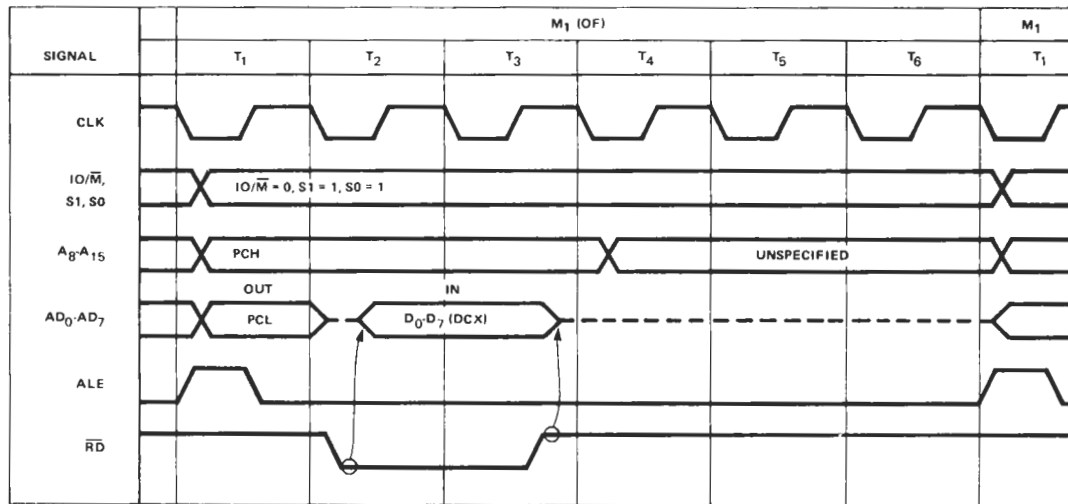
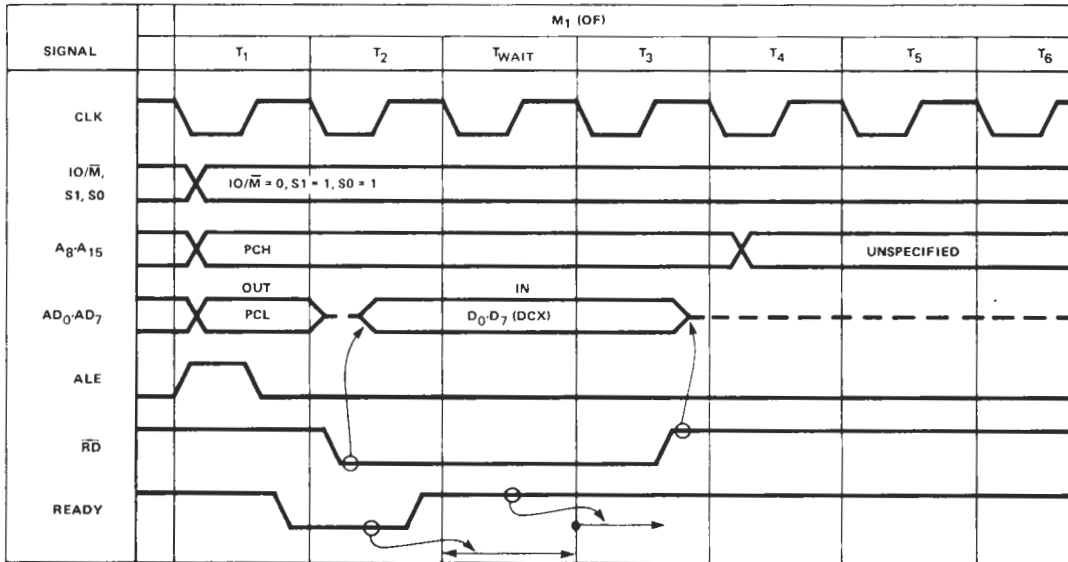
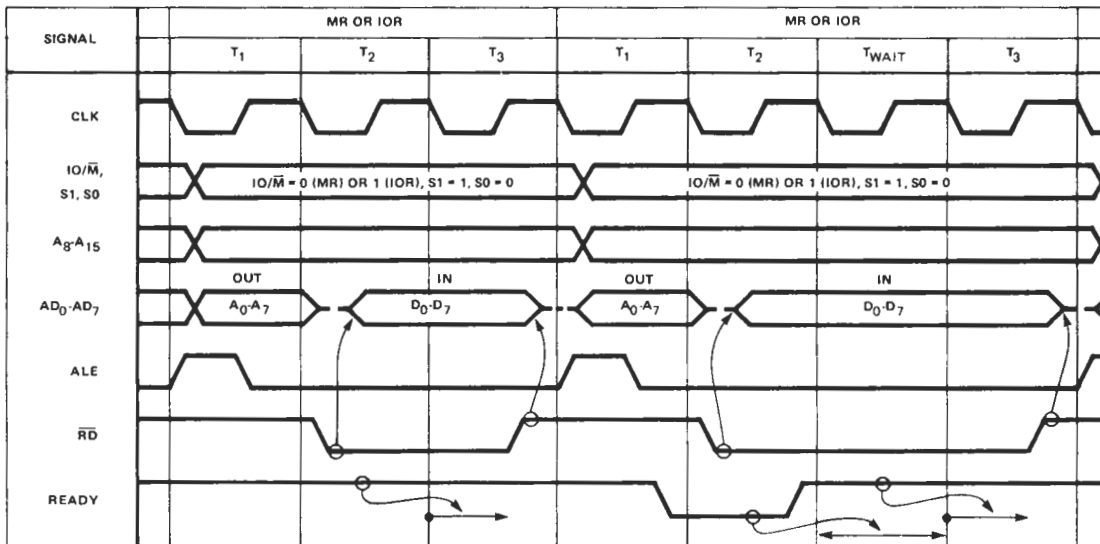

FIGURE 2-13 OPCODE FETCH MACHINE CYCLE (OF DCX INSTRUCTION)
FIGURE 2-14 OPCODE FETCH MACHINE CYCLE WITH ONE WAIT STATE
FIGURE 2-15 MEMORY READ (OR I/O READ) MACHINE CYCLES (WITH AND WITHOUT WAIT STATES)
Figure 2-13 shows the timing relationships for an OF machine cycle. The particular instruction illustrated is DCX, whose timing for OF differs from other instructions in that it has six T states, while some instructions require only four T states for OF. In this discussion, as well as the following discussions, only the relative timing of the signals will be discussed; for the actual timings, refer to the data sheets of the individual parts in Chapters 5 and 6.
The first thing that the 8085A does at the beginning of every machine cycle is to send out three status signals (IO/ $\overline{M}$ , S1, S0) that define what type of machine cycle is about to take place. The IO/ $\overline{M}$  signal identifies the machine cycle as being either a memory reference or input/output operation. The S1 status signal identifies whether the cycle is a READ or WRITE operation. The S0 and S1 status signals can be used together (see Figure 2-10) to identify READ, WRITE, or OPCODE FETCH machine cycles as well as the HALT state. Referring to Figure 2-13, the 8085A will send out IO/ $\overline{M}$  = 0, S1 = 1, S0 = 1 at the beginning of the machine cycle to identify it as a READ from a memory location to obtain an opcode; in other words, it identifies the machine cycle as an OPCODE FETCH cycle.
The 8085A also sends out a 16-bit address at the beginning of every machine cycle to identify the particular memory location or I/O port that the machine cycle applies to. In the case of an OF cycle, the contents of the program counter is placed on the address bus. The high order byte (PCH) is placed on the A8-A15 lines, where it will stay until at least T4. The low order byte (PCL) is placed on the AD0-AD7 lines, whose three-state drivers are enabled if not found already on. Unlike the upper address lines, however, the information on the lower address lines will remain there for only one clock cycle, after which the drivers will go to their high impedance state, indicated by a dashed line in Figure 2-13. This is necessary because the AD0-AD7 lines are time multiplexed between the address and data buses. During T1 of every machine cycle, AD0-AD7 output the lower 8-bits of address after which AD0-AD7 will either output the desired data for a WRITE operation or the drivers will float (as is the case for the OF cycle), allowing the external device to drive the lines for a READ operation.
After the status signals and address have been sent out and the AD0-AD7 drivers have been disabled, the 8085A provides a low level on  $\overline{RD}$  to enable the addressed memory device. The device will then start driving the AD0-AD7 lines; this is indicated by the dashed line turning into a solid line in Figure 2-13. After a period of time (which is the access time of the memory) valid data will be present on AD0-AD7. The 8085A during T3 will load the memory data on AD0-AD7 into its instruction register and then raise  $\overline{RD}$  to the high level, disabling the addressed memory device. At this point, the 8085A will have finished accessing the opcode of the instruction. Since this is the first machine cycle (M1) of the instruction, the CPU will automatically step to T4, as shown in Figure 2-11.
During T4, the CPU will decode the opcode in the instruction register and decide whether to enter T5 on the next clock or to start a new machine cycle and enter T1. In the case of the DCX instruction shown in Figure 2-13, it will enter T5 and then T6 before going to T1.
Figure 2-14 is identical to Figure 2-13 with one exception, which is the use of the READY line. As we can see in Figure 2-11, when the CPU is in T2, it examines the state of the READY line. If the READY line is high, the CPU will proceed to T3 and finish executing the instruction. If the READY line is low, however, the CPU will enter TWAIT and stay there indefinitely until READY goes high. When the READY line does go high, the CPU will exit TWAIT and enter T3, in order to complete the machine cycle. As shown in
Figure 2-14, the external effect of using the READY line is to preserve the exact state of the processor signals at the end of T2 for an integral number of clock periods, before finishing the machine cycle. This "stretching" of the system timing has the further effect of increasing the allowable access time for memory or I/O devices. By inserting TWAIT states, the 8085A can accommodate even the slowest of memories. Another common use of the READY line is to single-step the processor with a manual switch.
Figure 2-15 shows the timing of two successive MEMORY READ (MR) machine cycles, the first without a TWAIT state and the second with one TWAIT state. The timing during T1-T3 is absolutely identical to the OPCODE FETCH machine cycle, with the exception that the status sent out during T1 is IO/M = 0, S1 = 1, S0 = 0, identifying the cycles as a READ from a memory location. This differs from Figure 2-13 only in that S0 = 1 for an OF cycle, identifying that cycle as an OPCODE FETCH operation. Otherwise, the two cycles are identical during T1-T3.
Figure 2-15 also shows the timing of two successive I/O READ (IOR) machine cycles, the first without a  $T_{WAIT}$  state. As is readily apparent, the timing of an IOR cycle is identical to the timing of an MR cycle, with the exception of  $IO/\overline{M} = 0$  for MR and  $IO/\overline{M} = 1$  for IOR; recall that  $IO/\overline{M}$  status signal identifies the address of the current machine cycle as selecting either a memory location or an I/O port. The address used in the IOR cycle comes from the second byte (Port No.) of an INPUT instruction. Note that the I/O port address is duplicated onto both  $AD_0-AD_7$  and  $A_8-A_{15}$ . The IOR cycle can occur only as the third machine cycle of an INPUT instruction.